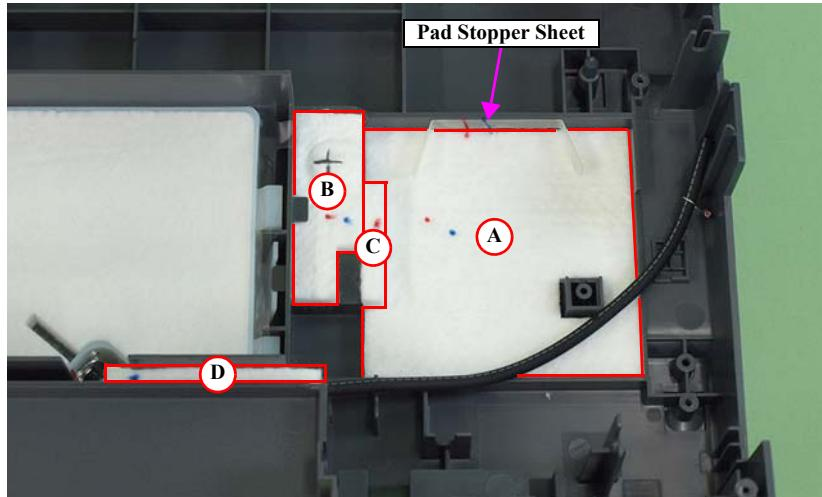

Figure 3-101. Removing the Waste Ink Pad
- Referring to Figure 3-101, correctly attach the four Waste Ink Pads.